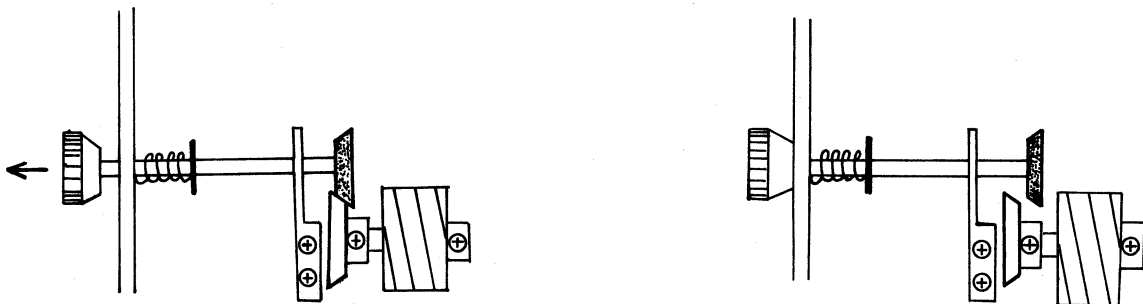

Fig 2
1. Attach the (2) in place where the clearance between (2) & (4) is at about 1mm. After attaching, make sure the reedswitch on (2) operates at the rate of 1 time per 1 fps with a tester.
2. Attach the (3) in place where the (3) engages to a threading roller I and manual transportation can be performed only when the (3) is pulled out toward in front of the projection. Refer to Fig.2.
3. Refer to the "Forward-Reverse Switching Mechanism" on page 31 for adjustment of the (9).